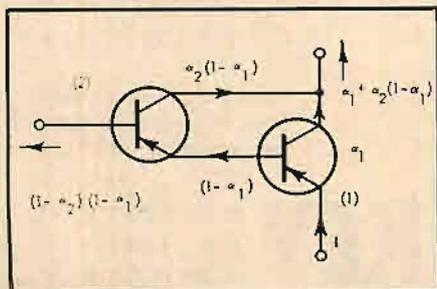

Fig. 6. The behavior of the pair is revealed by the current relationships.
The build-up of the analysis was done in drawing Fig. 6. If the emitter current of transistor (1) is 1, the collector current is  $\alpha_1$  and the base current is  $(1 - \alpha_1)$ . This base current is the emitter current of transistor (2) which therefore has a collector current of  $\alpha_2(1 - \alpha_1)$  and a base current of  $(1 - \alpha_2)(1 - \alpha_1)$ . The total current passed by the two collectors is  $\alpha_1 + \alpha_2(1 - \alpha_1)$  or  $\alpha_1 + \alpha_2 - \alpha_1\alpha_2$ , and the over-all current gain is very close to  $1/[(1 - \alpha_1)(1 - \alpha_2)]$  so long as  $\alpha_1$  and  $\alpha_2$  are near unity. We think nothing of current gains of the order of 1000.